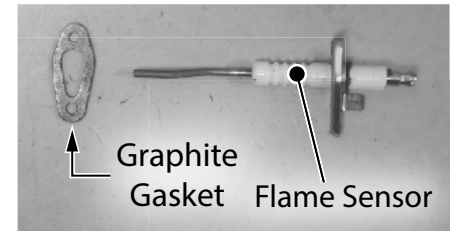

Figure 3 - Install flame sensor and graphite gasket
- 8** Locate the new flame sensor assembly and graphite gasket provided in the kit. Orient the graphite gasket as shown in Figure 3 and install to flame sensor assembly.